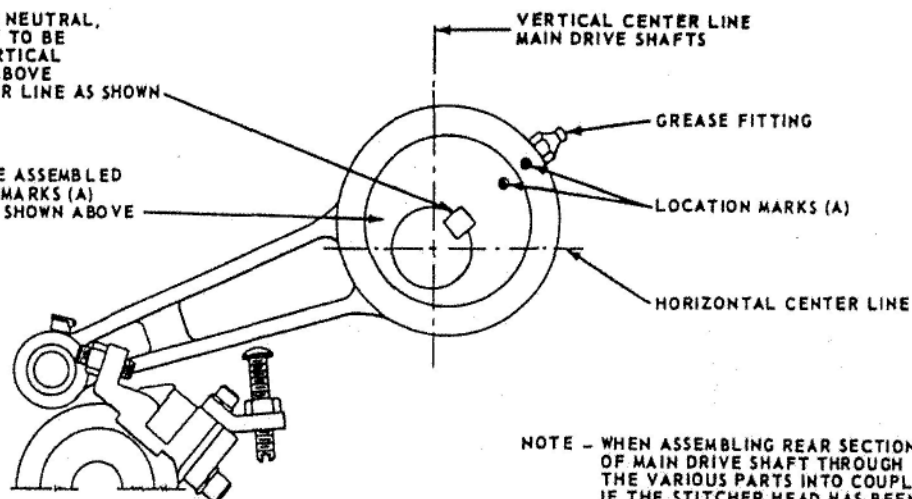
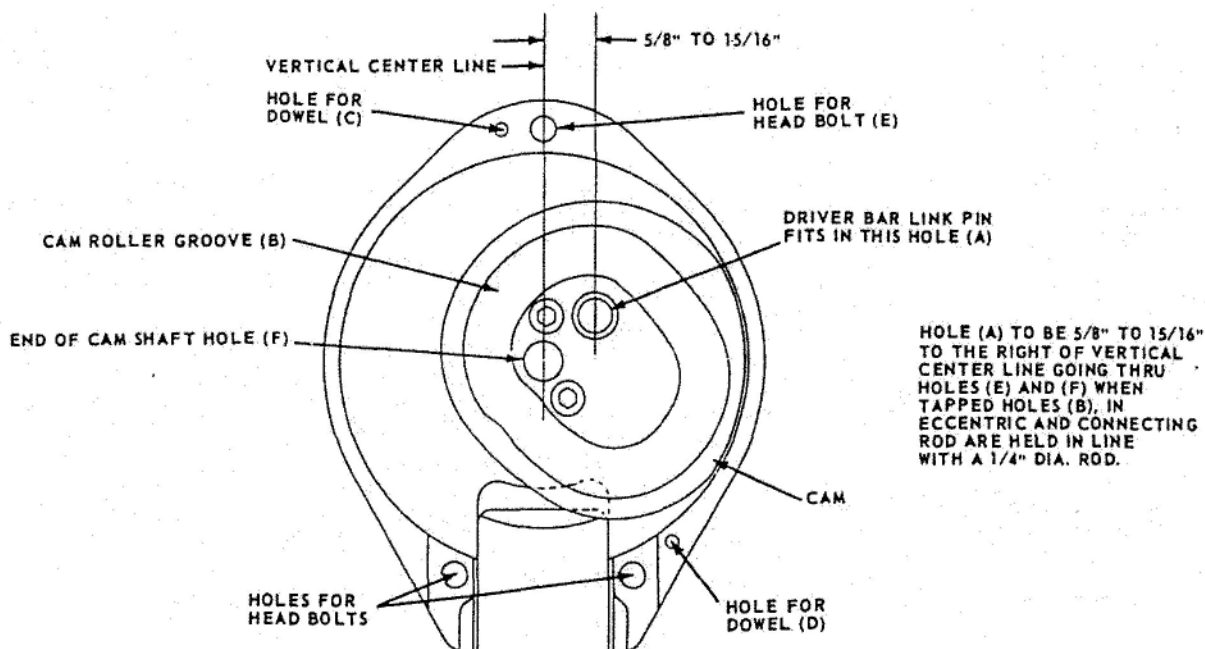

Figure 29 - View Looking From Rear of Stitcher
Figure 30
9. Turn the machine over by hand in normal driving direction until the screw holes in eccentric and connecting rod, Figure 29 are in line. Now mesh the two bevel gears so that the driver bar link hole, (A) is to the right of vertical center line going through holes (E) and (F), as shown on Figure 30.
2. Neutral or 0° should be in a vertical position at top of handwheel when the tapped holes in the eccentric and the connecting rod are aligned with a 1/4" diameter rod. (See Figure 29).